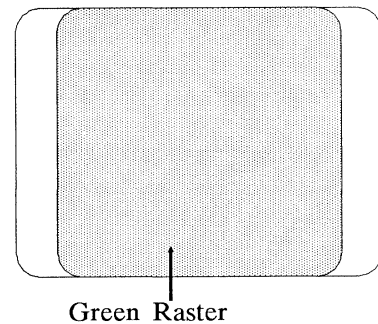
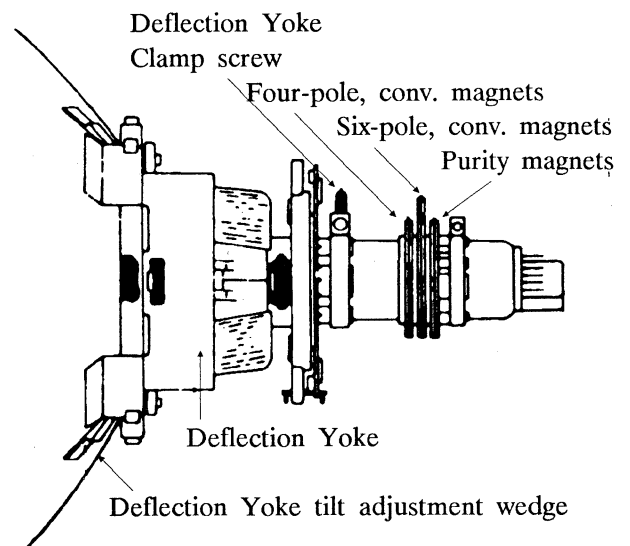

Fig 8. Color Purity Adjustment
Fig 9. Picture tube neck components location
- (1) Check for the correct location of all neck components. Refer to Figure 9.
- (2) Rough in the static convergence at the center of the CRT, as explained in the static convergence procedure.
- (3) Rotate the contrast control to the center of its range and rotate the brightness control to its maximum clockwise position.
- (4) To obtain a blank raster. Rotate the screen control(part of F.B.T) clockwise until a normal raster is obtained.
- (5) Rotate the red bias(VR701) and blue bias (VR702) controls to the maximum counterclockwise positions. Rotate the screen control VR sufficiently in a clockwise direction to produce a green raster.
- (6) Loosen the deflection yoke clamp screw and pull the deflection yoke as close as possible to the purity and convergence magnets assembly.
- (7) Begin the following adjustment with the tabs on the round purity magnet rings set together. Initially, move the tabs on the round purity magnet rings to the side of the CRT neck. Then, slowly separate the two tabs while at the same time rotating them to adjust for a uniform green vertical band at the center of the CRT screen. Refer to the Figure 8.
- (8) Carefully slide the deflection yoke forward to achieve green purity (uniform green screen).